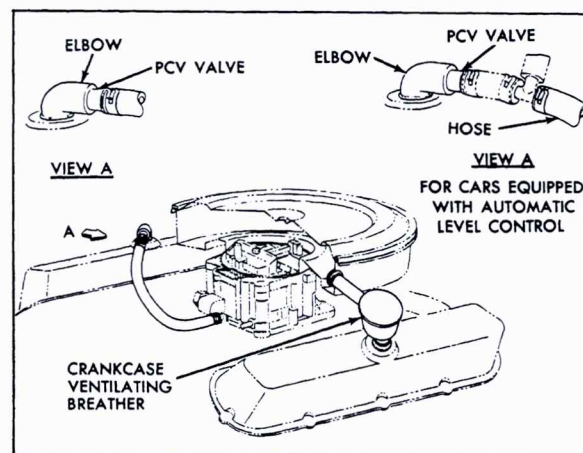

Fig. 0-12 Crankcase Ventilation System
b. Positive Crankcase Ventilation (Fig. 0-12)